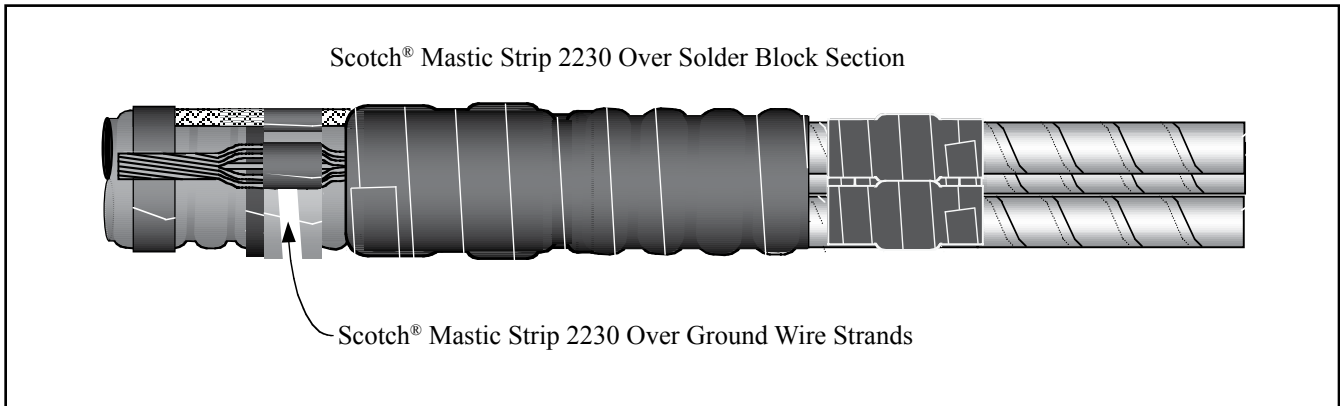

Figure 10
2.13 Apply one strip of Scotch® Mastic Strip 2230 around ground wire strands (Figure 10). Apply one mastic seal strip around solder block section of ground braid tail. Align mastic seal strip wraps with previously applied mastic seal strip band around cable jacket.